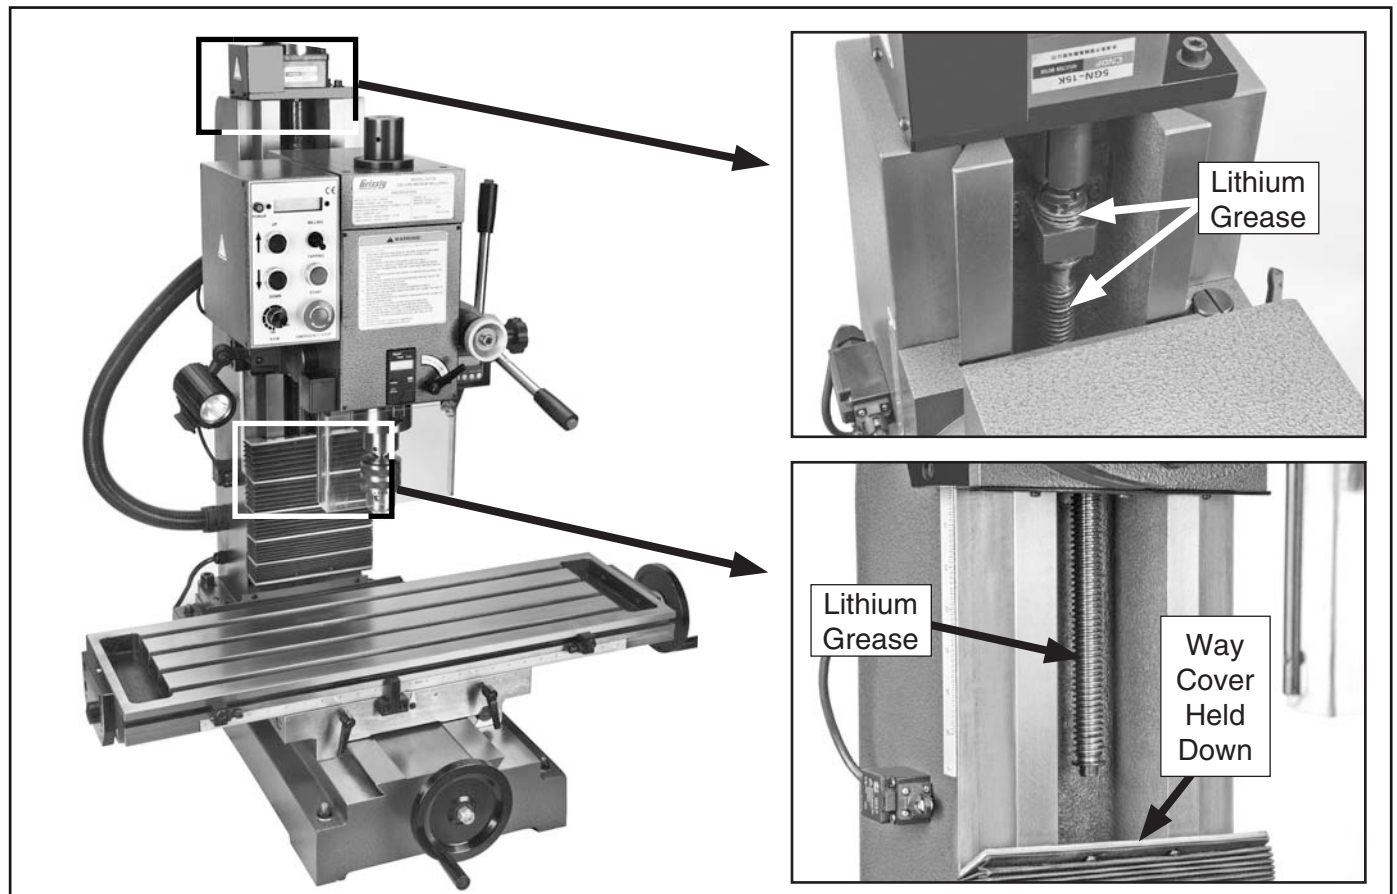

Figure 41. Headstock leadscrew access and lubrication.
3. Remove the way cover (see **Figure 41**) for lower column leadscrew access.